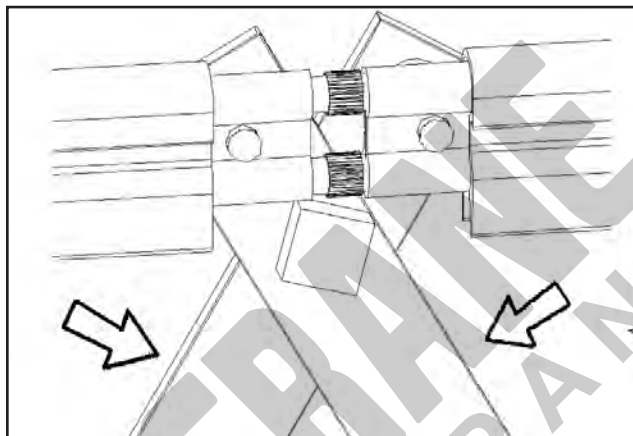

Figure 23-1 Joining Pinned Conductors
A. For joining pinned conductor bars, see **Figure 23-1**.